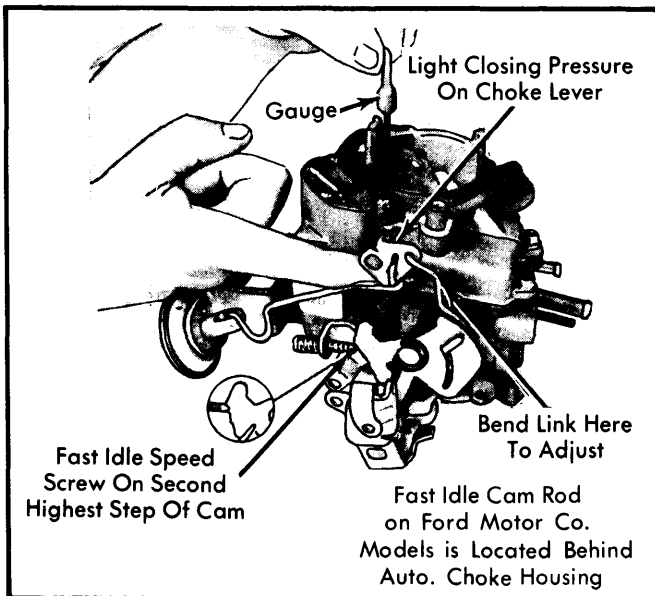

Fig. 3 Adjusting Fast Idle Cam Position (Chrysler Corp. Model Carburetor Shown)
- 1) Position fast idle speed screw on second step of fast idle cam against shoulder of highest step. Hold choke valve toward closed position with light finger pressure. See Fig. 3.